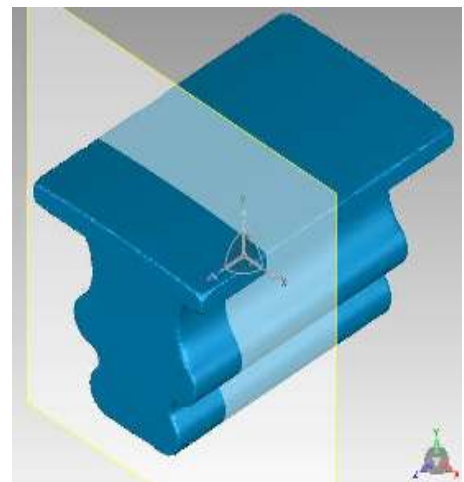

Figure 116
- In the **Align Plane** roll-up group set the **Position** value to **14.0 mm**, press **Enter** to update the section plane position in the **Graphics Window**, see **Figure 116**.